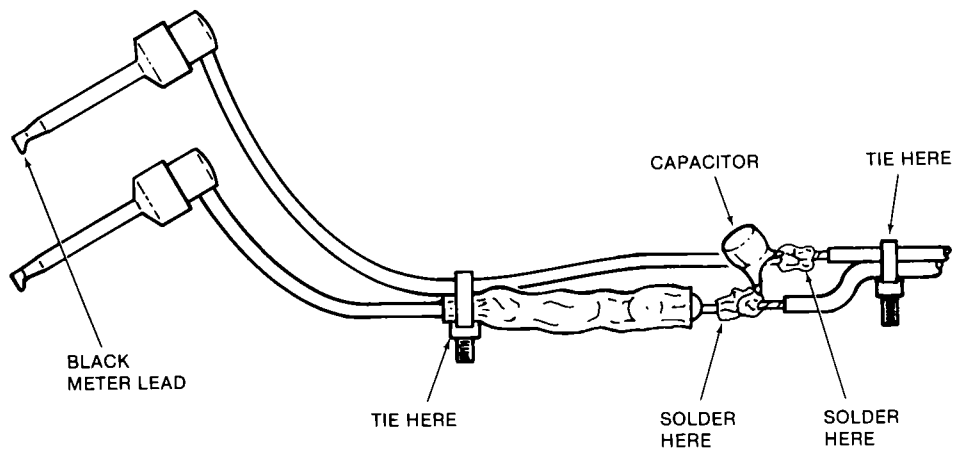

Fig. B-7. Assembly, step 4.
- Solder capacitor and black meter leads as shown in Fig. B-7. Tie meter leads where shown.